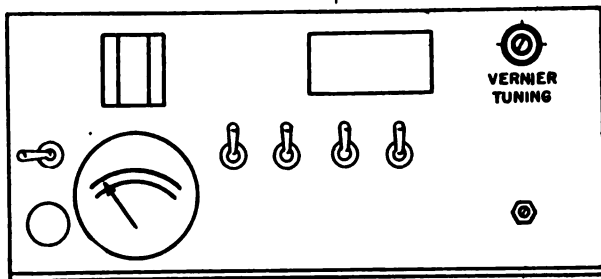

Figure 77. Vernier tuning control adjustment.
*k.* If this frequency deviates too far from the desired frequency, changes of a few megacycles may be made by adjusting the VERNIER TUNING control on the transmitter front panel (fig. 77).
(1) Rotate the wavemeter handwheel to the correct position for the desired frequency.
(2) Loosen the locking thumbnut on the VERNIER TUNING control by turning it to the left.
(3) Using a screwdriver, turn the VERNIER TUNING control either to the left or right until the tuning eye on the wavemeter is at maximum closure. If rotating the VERNIER TUNING two turns does not bring the transmitter to the desired frequency, as indicated by maximum closure of the tuning eye, further rotation is of no use, because the frequency cannot be varied sufficiently by this control.